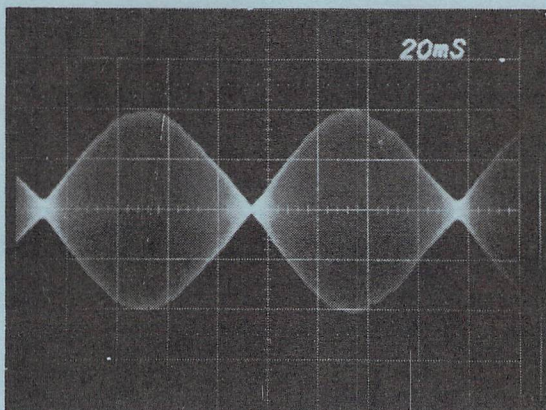

Figure 1-1. Head Radial Alignment
6. Press '5' to allow for monitoring of the CATS EYE SIGNAL for evenness, correct amplitude and to adjust if necessary. Rotate the stepper motor to obtain maximum display per Figure 1-1 and 1-2.